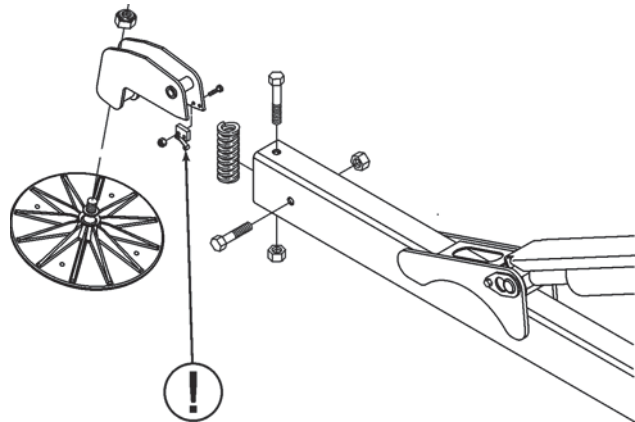

Figure 3-1. Outrigger Position Switches
- ❑ Repair or replace as needed. Refer to Figure 3-1.